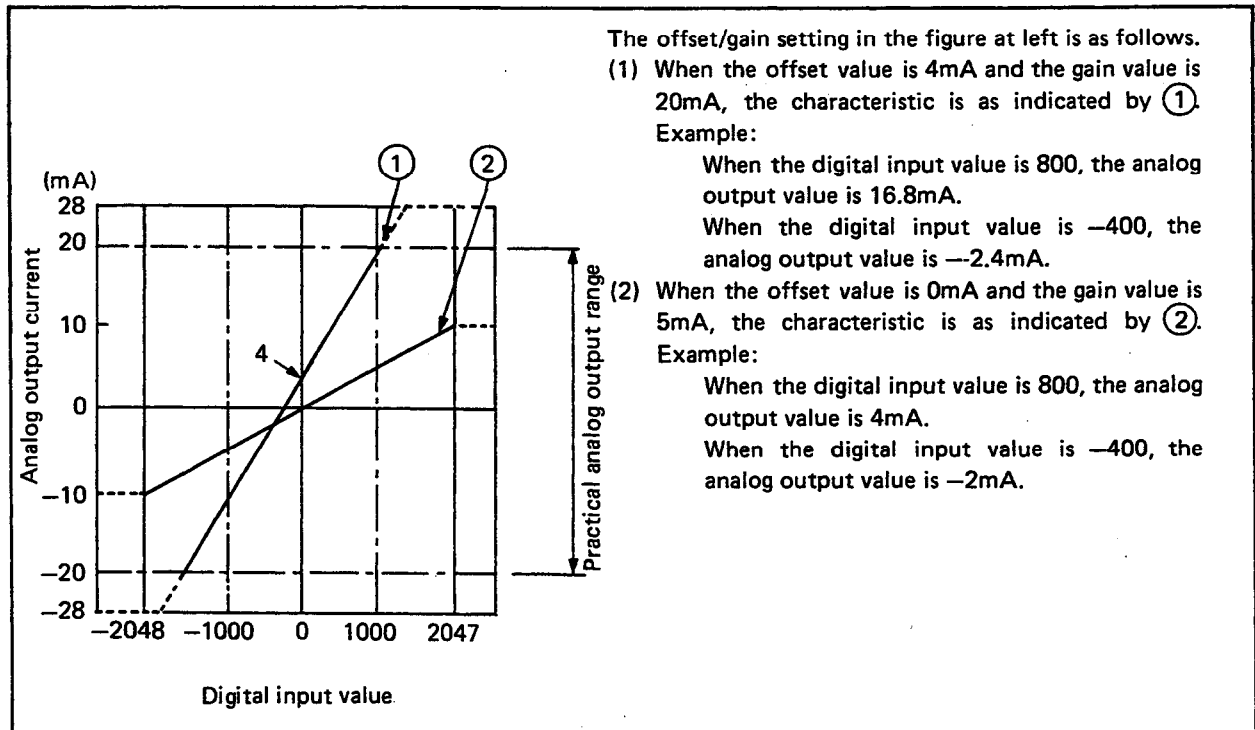

Fig. 3.3 Current Output Characteristic
Fig. 3.3 shows a current output characteristic graph for several offset/gain settings.
- The maximum resolution and overall accuracy are within the range of performance specifications when the working analog current range is  $-20$  to  $0$  to  $+20$ mA. Avoid use outside the above indicated range (dotted line on the current output characteristic graph in Fig. 3.3).